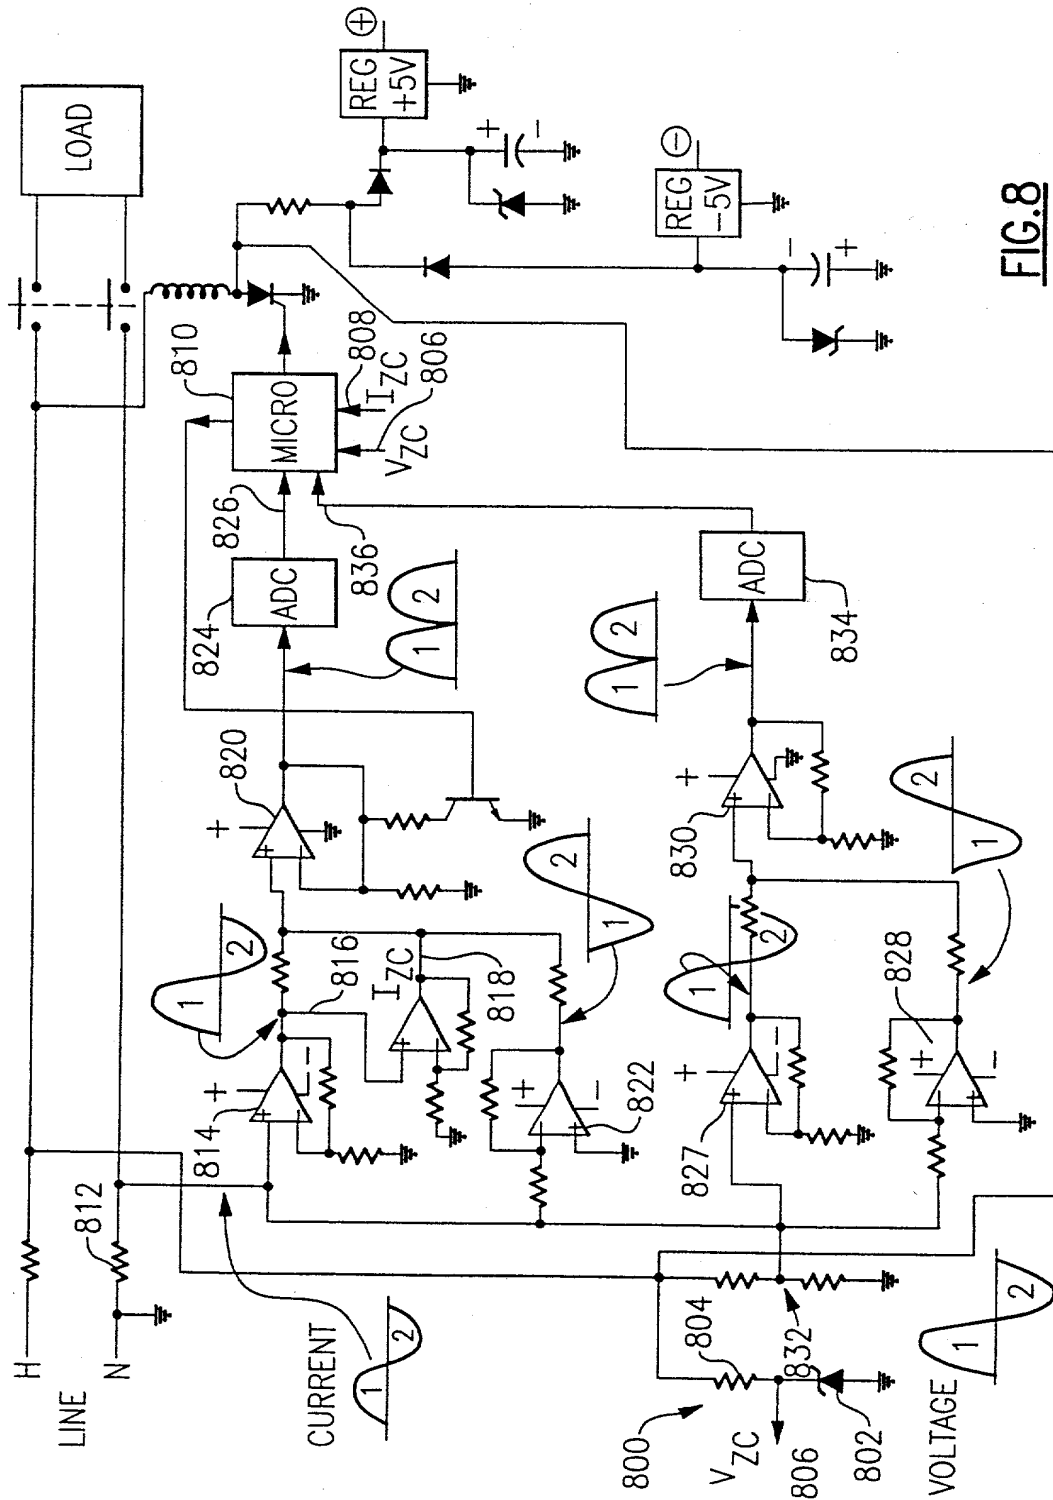

FIG. 8
FIG. 8 is a schematic diagram of a power line monitoring system. The system includes a power line (H, N) connected to a load and a monitoring circuit. The monitoring circuit includes a current sensor (812) and a voltage sensor (814). The current sensor output is connected to an ADC (824) and a MICRO (826). The voltage sensor output is connected to an ADC (834) and a MICRO (826). The MICRO (826) is also connected to a +5V regulator (REG +5V) and a -5V regulator (REG -5V). The system also includes a Zener diode (806) and a Zener diode (808).